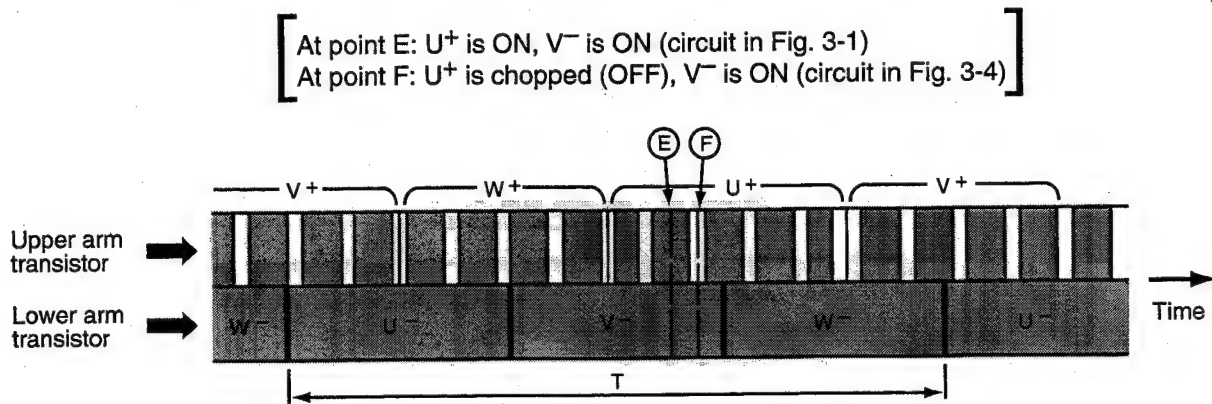

Fig. 3-2 Switching order of power module
- DC 260-380V is input to power module and power module switches power supply current according to rotation position of magnet rotor. The switching order is as shown in Fig. 3-2.
- Time T in Fig. 3-2 shows the switching period, and relation with rotation speed (N) of the compressor is shown by formula below;